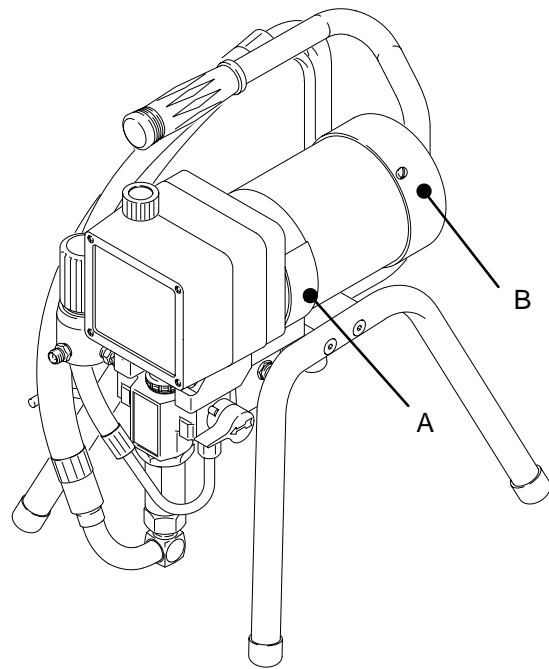

Fig. 11
Remove the motor brush inspection covers (A). See Fig. 11.
Remove the fan cover (B). See Fig. 11.